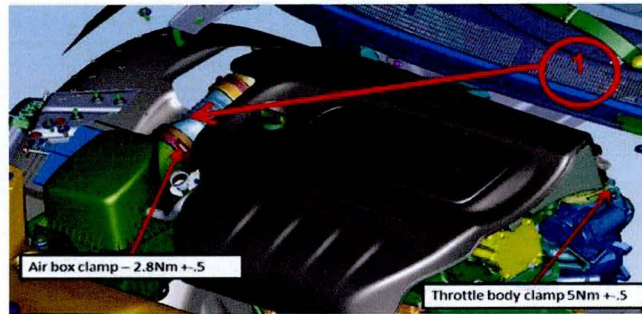

Fig. 2 Throttle Body Air Inlet
6. Loosen screw clamp from engine cover to air cleaner box (Fig. 2).